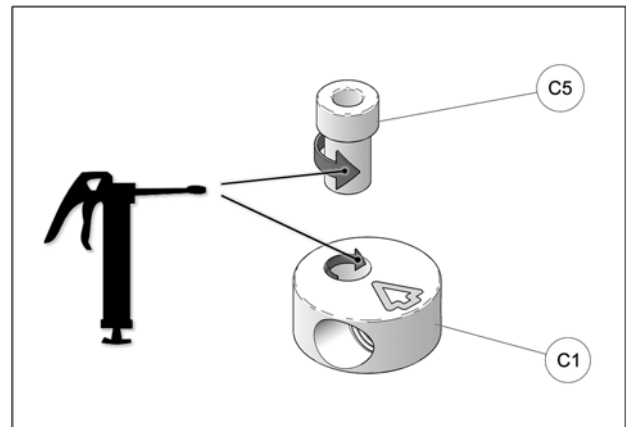

Fig. 23
- Apply grease evenly all around step spacer bushing (C5) and in hole of aluminum disk (C1) when assembling these parts together. See Fig. 23